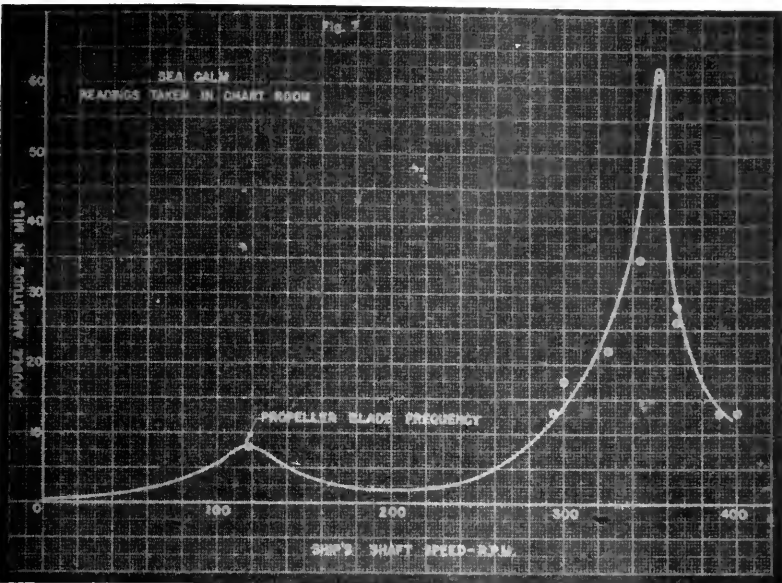

Fig. 7
(1) Wave action in heavy seaway will, of course, excite many of the natural modes of vibration of ships and nothing can be done about it except a change of course with a consequent change of wave action. In regard to rotating machinery on board the ship and its continuous action on the ship's structure, the vibration engineer can, at times, remedy the situation so as to effect a more fortunate condition. The principle of "Resonance," i.e., the coincidence of a natural frequency of the ship's structure with the frequency of the disturbing agency, must be kept in mind as the most important factor governing the magnitude of vibration.
(2) Figure 7 shows a clear cut example of athwartship resonance in a small combatant ship. At about 354 rpm the forces due to the unbalanced propellers created a maximum athwartship vibration of  $\pm 30$  mils, while at  $354/3 = 118$  rpm, the three bladed propellers' hydrodynamic forces caused a minor resonance in the athwartship direction of the same 354 cycles per minute frequency.